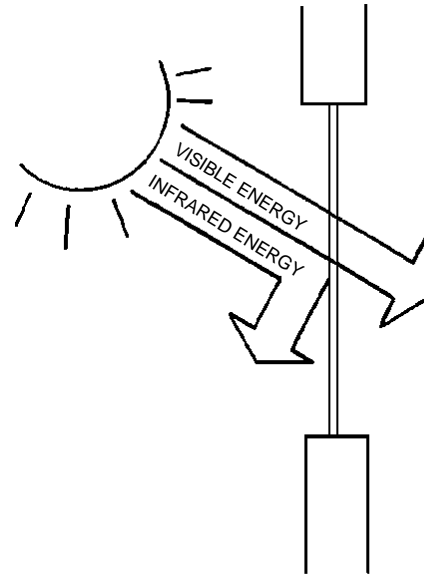

Figure 1: Characteristics of the Ideal Window in a Cooling Load Dominated Building (Reprinted with permission. Copyright 1992, "Architecture")
Where cooling loads are the major concern, as in most commercial buildings, the perfect window provides light but no heat. About 45 percent of the sun's energy is at visible wavelengths; the rest is invisible. To minimize cooling loads, it is desirable to transmit as much visible energy as desired for the application, while rejecting the rest of the solar radiation (Figure 1). Such a window has high **visible transmittance** (T_{vis}), the percentage of visible light that passes through, and a low **shading coefficient** (SC), an indicator of the heat gain due to solar radiation.